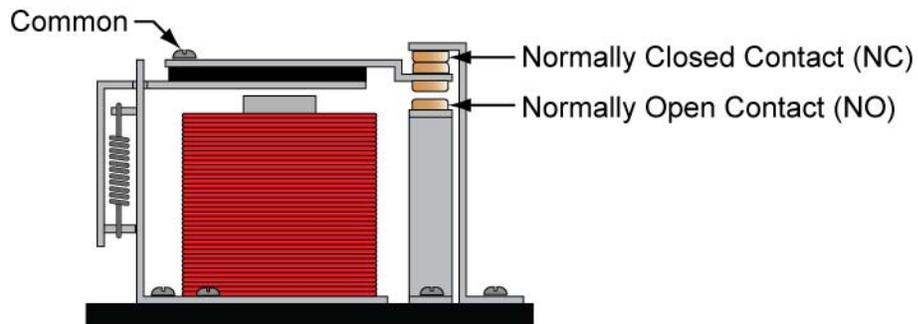

**Figure 9: Normally Open SPST Relay**
- Normally Open (NO) and Normally Closed (NC) Relays:
- Normally Open relay contacts are open when the relay coil is de-energized (Figure 9). The contacts remain open until the coil is activated.